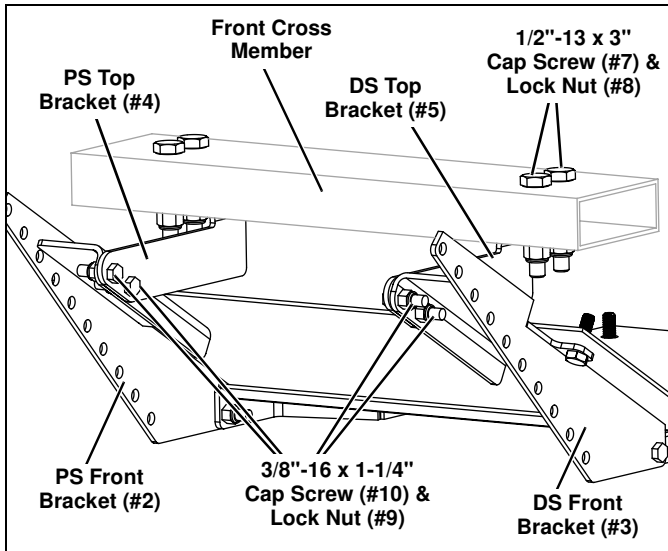

Figure 3
6. Loosely secure the DS Front Bracket (#3) and DS Top Bracket (#5) together with a (2) 3/8"-16 x 1-1/4" Cap Screws (#10) and (2) 3/8"-16 Lock Nuts (#9). (See Figure 3.)